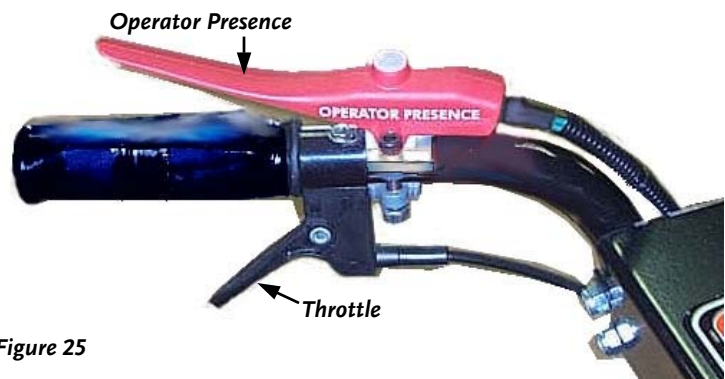

Figure 25
2. Remove the Operator Presence Lever from the left Handlebar using a Phillips Screwdriver (**Figure 25**).
3. Remove the Throttle from the Handlebar with a 5/16" Wrench or Socket (**Figure 25** on page 29).